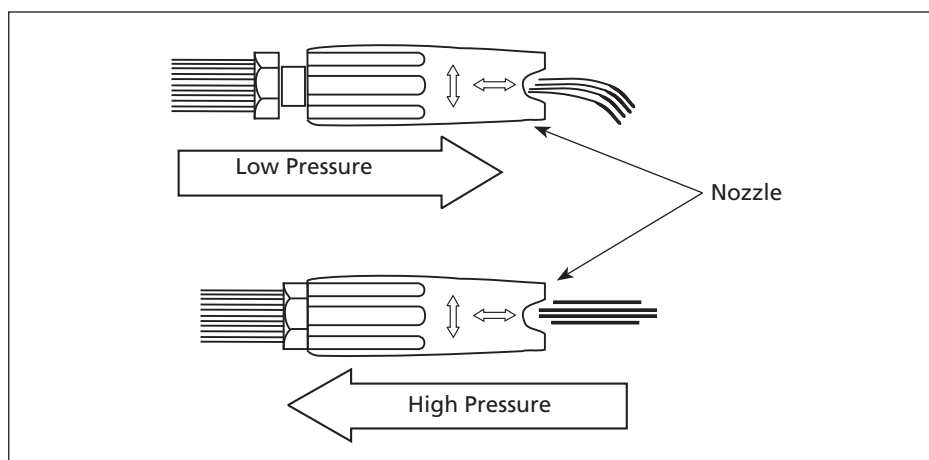

Figure 15 - Adjusting nozzle for pressure
3. Place hand around the spraying end section of the lance (the section that turns from left to right). Pull firmly and quickly away from you. (NOTE: Do not adjust lance while spraying.) The lance will extend 1/2 inch and be in low pressure (see Figure 15). Soap can only be drawn in low pressure.